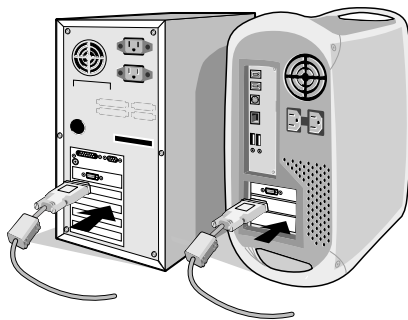

Figure A.1
2. For the PC or MAC with DVI digital output: Connect the DVI signal cable to the connector of the display card in your system (**Figure A.1**). Tighten all screws.